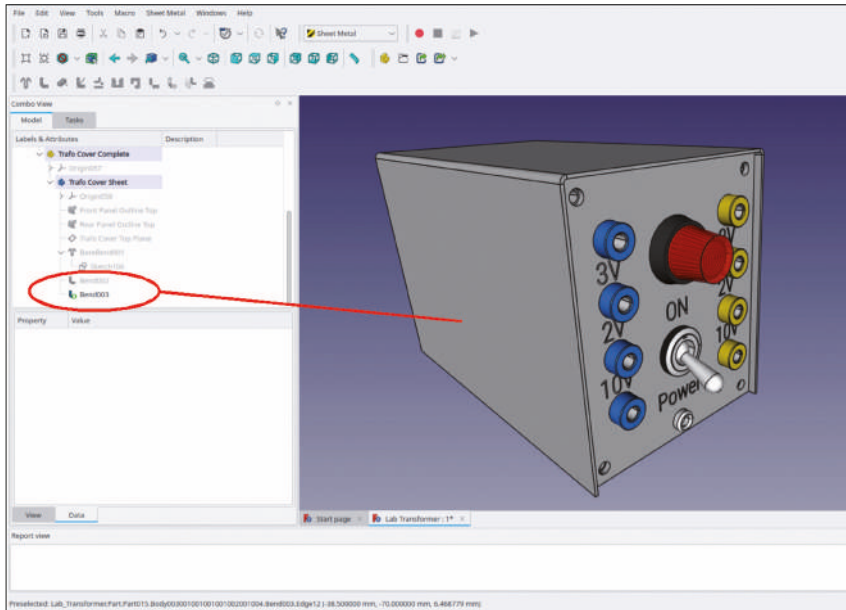

Figure 9-118
20. In the same way, create the opposite wall of the cover (Figure 9-118).